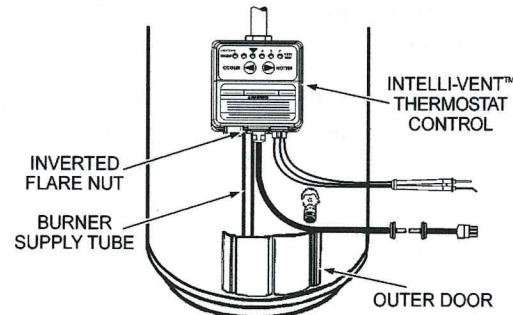

FIGURE 2.
4. Using a 3/4 inch open-end wrench, disconnect the burner tube's inverted flare nut, which is threaded into the Intelli-vent™ Thermostat Control, (183760 Series), see Figure 2.
5. Remove the outer and inner doors from the water heater, see Figures 2 and 3.